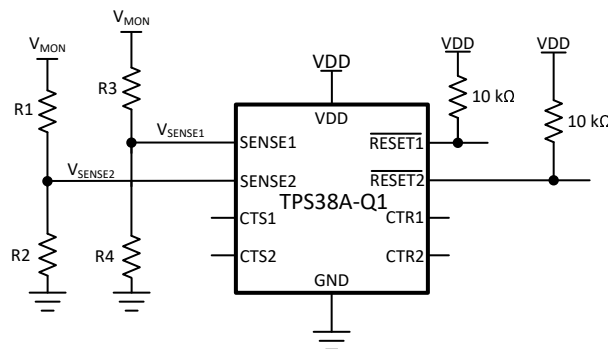

图 8-10. Adjustable Voltage Threshold with External Resistor Dividers
For example, consider a 12 V rail being monitored V_{MON} for undervoltage (UV) using channel 1 of the TPS38A010122DSKRQ1 variant. Using 式 7 and shown in 图 8-10, R_1 is the top resistor of the resistor divider that is between V_{MON} and V_{SENSE2} , R_2 is the bottom resistor that is between V_{SENSE2} and GND, V_{MON} is the voltage rail that is being monitored and V_{SENSE2} is the input threshold voltage. The monitored UV threshold, denoted as V_{MON-} , where the device will assert a reset signal occurs when $V_{SENSE2} = V_{IT-(UV)}$ or, for this example, $V_{MON-} = 10.8V$ which is 90% from 12 V. Using 式 7 and assuming $R_2 = 10k\Omega$, R_1 can be calculated shown in 式 8 where I_{R1} is represented in 式 9: